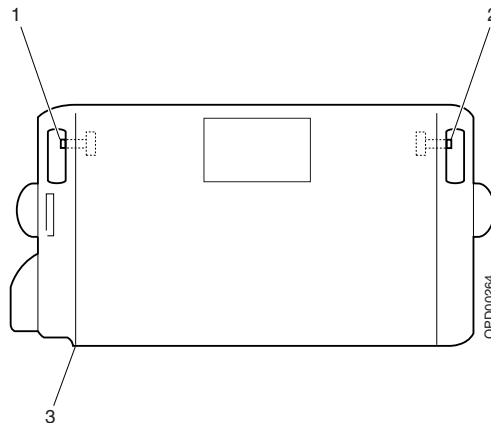

Fig. 4 Measuring points on the biopsy unit
2. Perform step 1. to 25. of a stereo examination on the stereo calibration phantom (Fig. 4, Page 5 - 4), see Performing stereo examination in Supplement to the Instructions for Use MAMMOMAT 3000 - Opdimas[®].
1. Measure the resistance between the ground connection of the stand and measuring points on the CCD camera according to Fig. 4. Use a sharp-pointed tool to penetrate the finishing paint. Fill in your values in the test protocol for protective earth measurement (see Appendix 2).